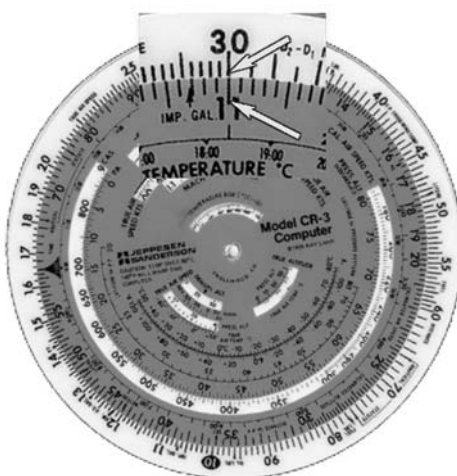

Figure 4.3-20 Speed 1
2. Locate the distance (30 NM) on the outer (DISTANCE) scale and place the time flown (11 minutes) directly under the distance on the inner (TIME) scale. (Figure 4.3-20)